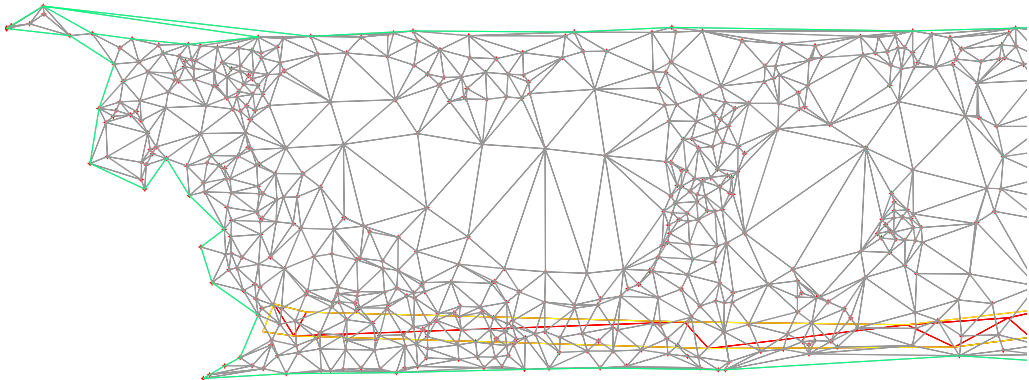

Figure 3-66 The **EG** surface after deleting the TIN lines
6. Press ENTER; the selected lines are deleted and the surface is displayed, as shown in Figure 3-66. Press ENTER to exit the command.